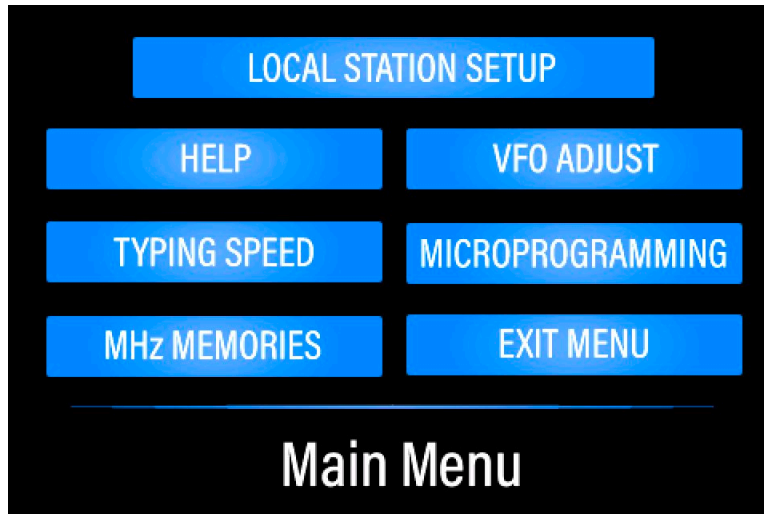

FIGURE 2: MAIN MENU
2. Press the Menu Button, and the *Main Menu* screen will display, as shown in Figure 2 below.